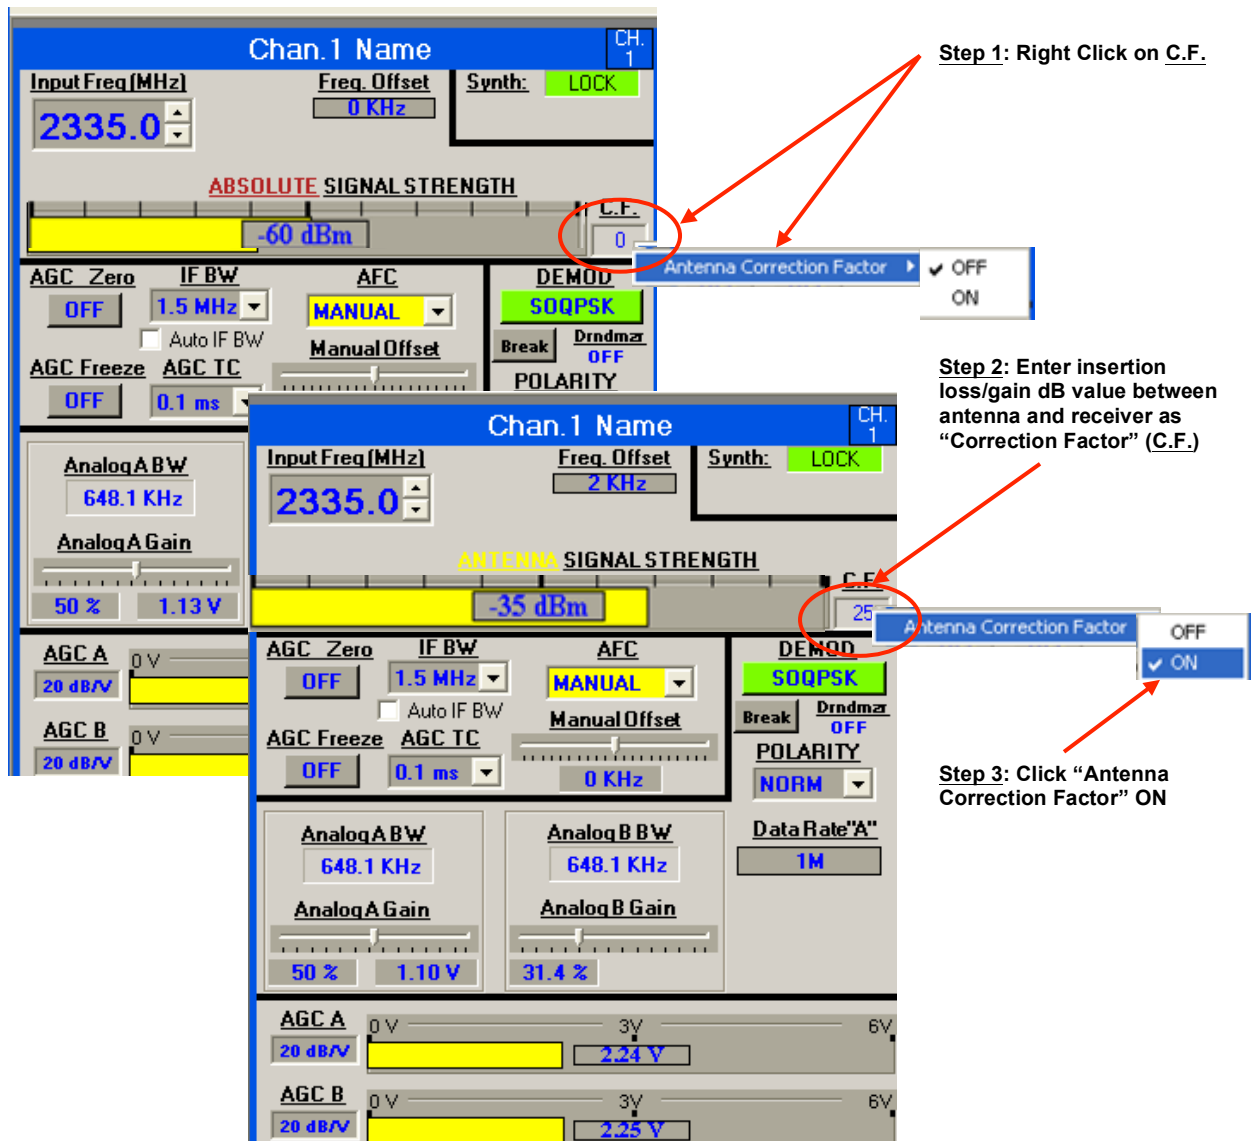

Figure 6-3
ANTENNA SIGNAL STRENGTH provides an indication of signal strength at the antenna as a function of a user-specified correction factor (**CF**) that reflects the insertion loss and/or gains between the antenna and the receiver. This feature is enabled and displayed as shown in Figure 6-3, and as follows:
Step 2: Enter the numerical correction factor desired. In the Figure 6-3 example, the number “25” has been entered as the Antenna-to-Receiver insertion loss in dB.
Step 3: Click “Antenna Correction Factor “**ON**”. As illustrated in Figure 6-3, the **ANTENNA SIGNAL STRENGTH** readout is now reads -35 dBm instead of the previous **ABSOLUTE SIGNAL STRENGTH** of -60 dBm (i.e., the Correction Factor of 25 has been factored into the signal strength indication). Repeat Step 1 and then click on OFF to return to the **ABSOLUTE SIGNAL STRENGTH** readout.